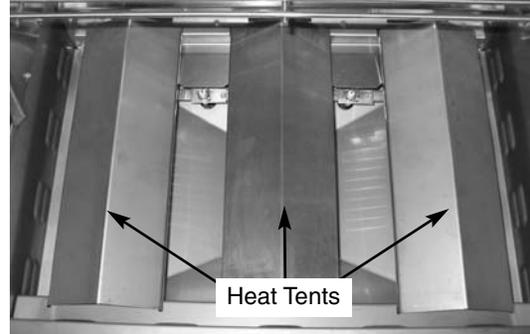

Fig 1
1. Remove cooking grates and heat tents (Fig. 1).
25. Reinstall the heat tents (Fig. 1).